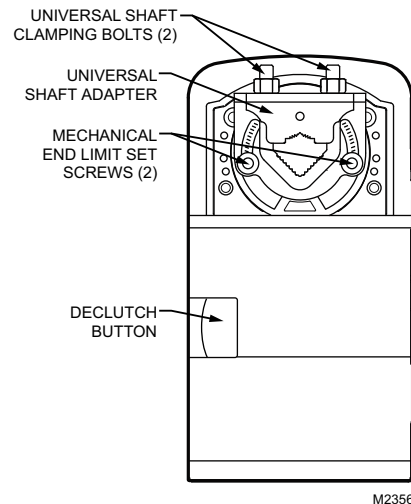

Fig. 1. Series 60 Floating Actuator.
The two mechanical end-limit set screws control the amount of rotation from 12° to 95°. These set screws must be securely fastened in place. To ensure tight closing of the damper, the shaft adapter has a total rotation stroke of 95° (see Fig. 1).
- The Declutch button, when pressed, allows you to rotate the universal shaft adapter (see Fig. 1).